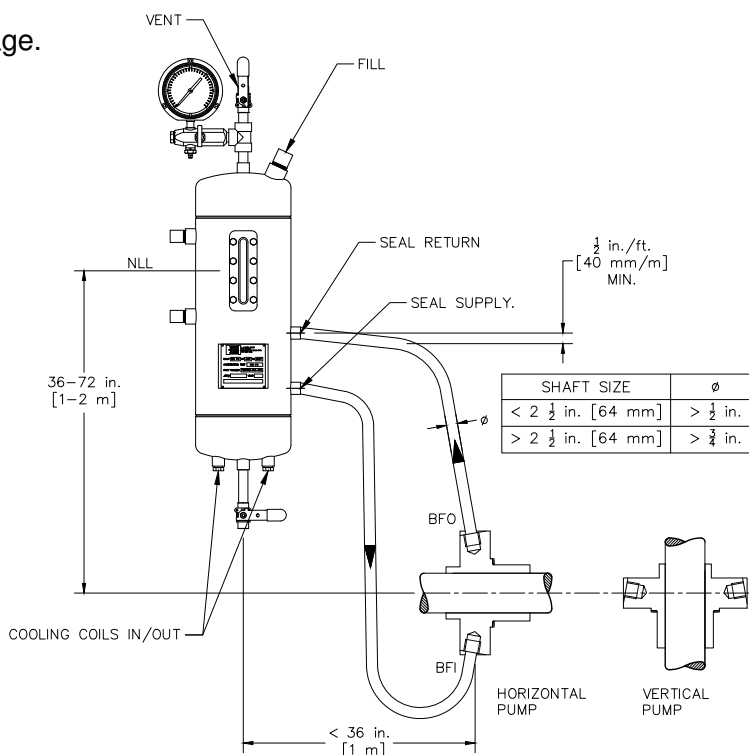

Figure 8: Typical installation of a buffer/barrier fluid reservoir.
1. Correctly make connections between the buffer/barrier fluid system and the mechanical seal according to the connection labels on the prints. In the case of a Piping Plan 52 or Plan 53A the SEAL SUPPLY connection (lower port) on the reservoir must lead to the buffer/barrier fluid in (BFI) connection on the seal gland; the SEAL RETURN connection (upper port) on the reservoir must lead to the buffer/barrier fluid out (BFO) connection on the seal gland (Figure 8).